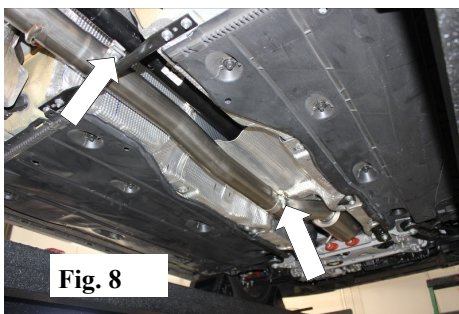

Fig. 8
4. Place a clamp over the expanded end at the **Front Pipe Assembly** and insert inlet to **Down Pipe Assembly**. DO NOT TIGHTEN HARDWARE. (See Fig. 8)